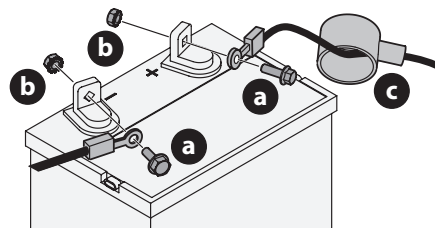

Figure 2
1. Remove the plastic cover, if present, from the positive battery terminal and attach the red cable to the positive battery terminal (+) with the bolt (a) and sems nut (b) (Figure 2).
3. Remove the plastic cover, if present, from the negative battery terminal and attach the black cable to the negative battery terminal (–) with the bolt (a) and sems nut (b) (Figure 2).